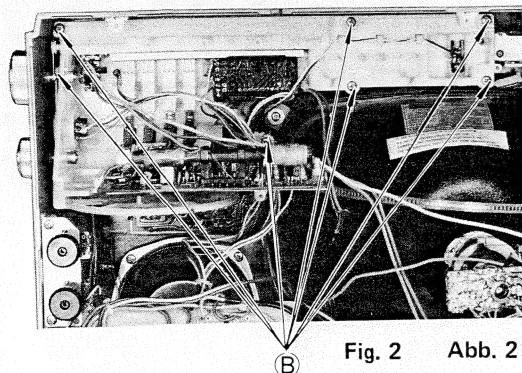

Fig. 2 Abb. 2
2. Remove 7 screws (B) as shown in Fig. 2.